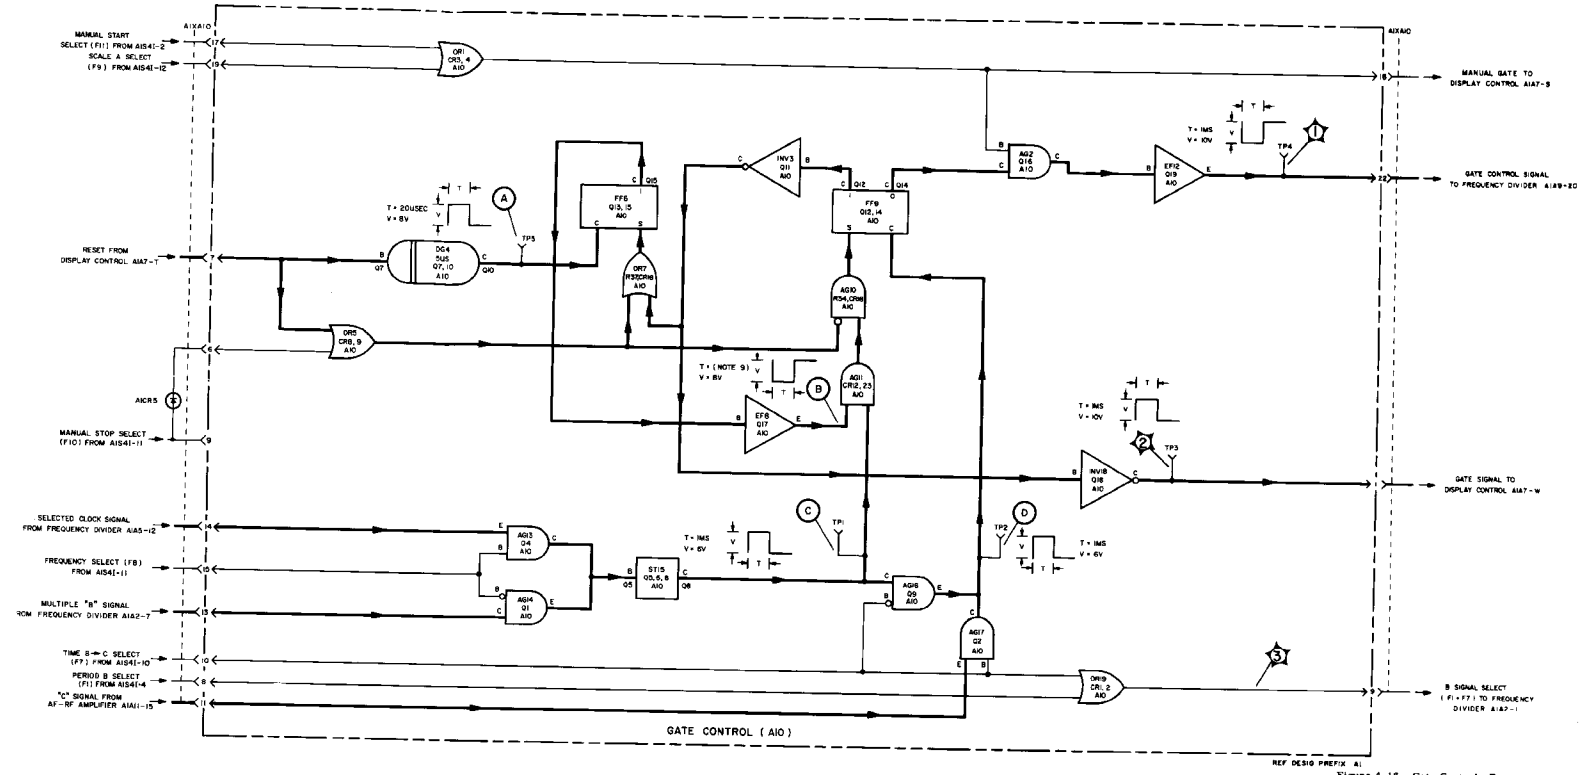

Figure 4-16. Gate Control, Functional and Servicing Block Diagram
a. GATE CONTROL FUNCTIONAL DESCRIPTION. - The gate control functional section provides the gate control signal to the count decades functional section. This signal determines the length of time count decades count the signal applied to their input. The gate control functional section is constructed on printed circuit board A1A10. Figure 4-16 is the functional and servicing block diagram for the section
c. USEFUL ILLUSTRATIONS. - Illustrations useful in maintaining this functional section are: figures 4-16, 5-45, and 5-69.